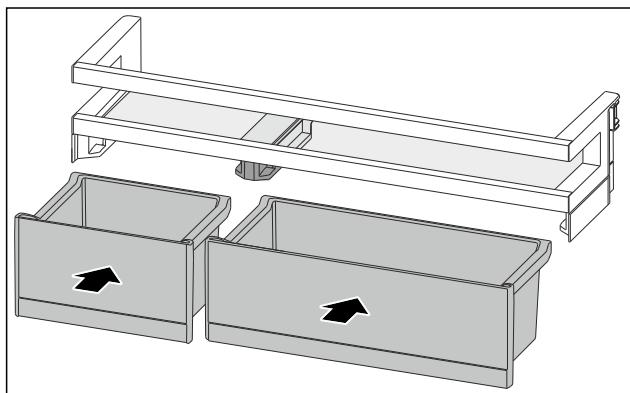

Fig. 126
- ▶ Insert the VarioBoxes in reverse order. (see Fig. 126)